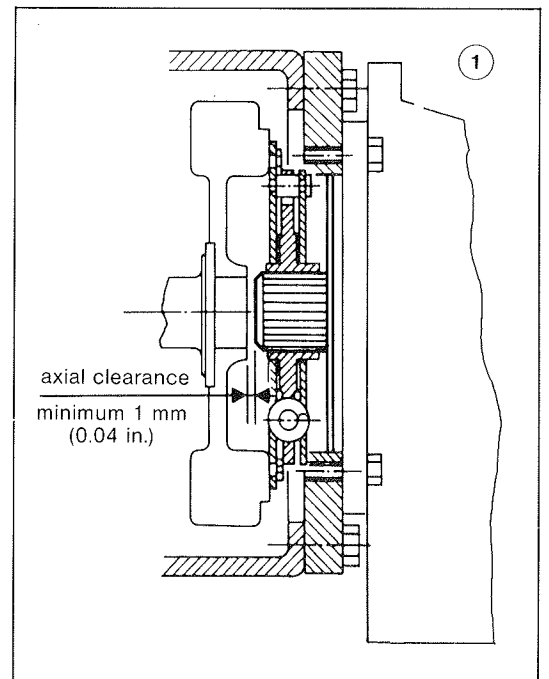

Figure 10
- b. Fit the transmission to the intermediate flange. Use 6 hex bolts M 10 (Figure 10, item 1) material property according to class 8.8 acc. to DIN or equivalent. Tightening torque is 44 Nm (32.5 ft. lb.).
Assure clearance of axial clearance crankshaft according to drawing (Figure 10).